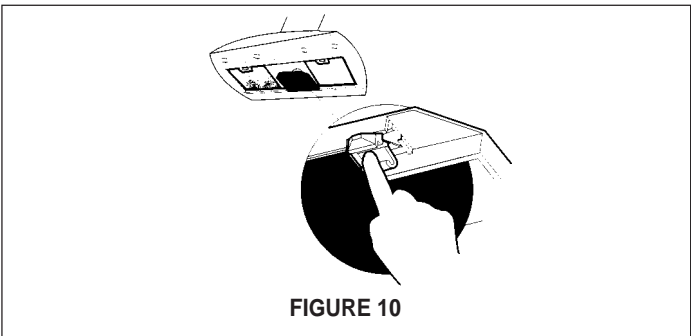

FIGURE 10
3. Install the **CHARCOAL FILTER (7)** behind the center grease filter opening by inserting and locking into place (as indicated in **FIGURE 10**).